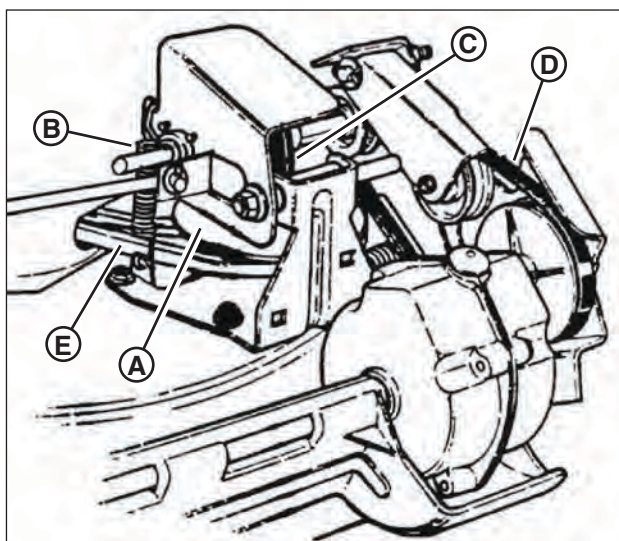

Figure 24: Wheel drive components
1. Grease on the drive disc (**A, Figure 24**) causing slippage.